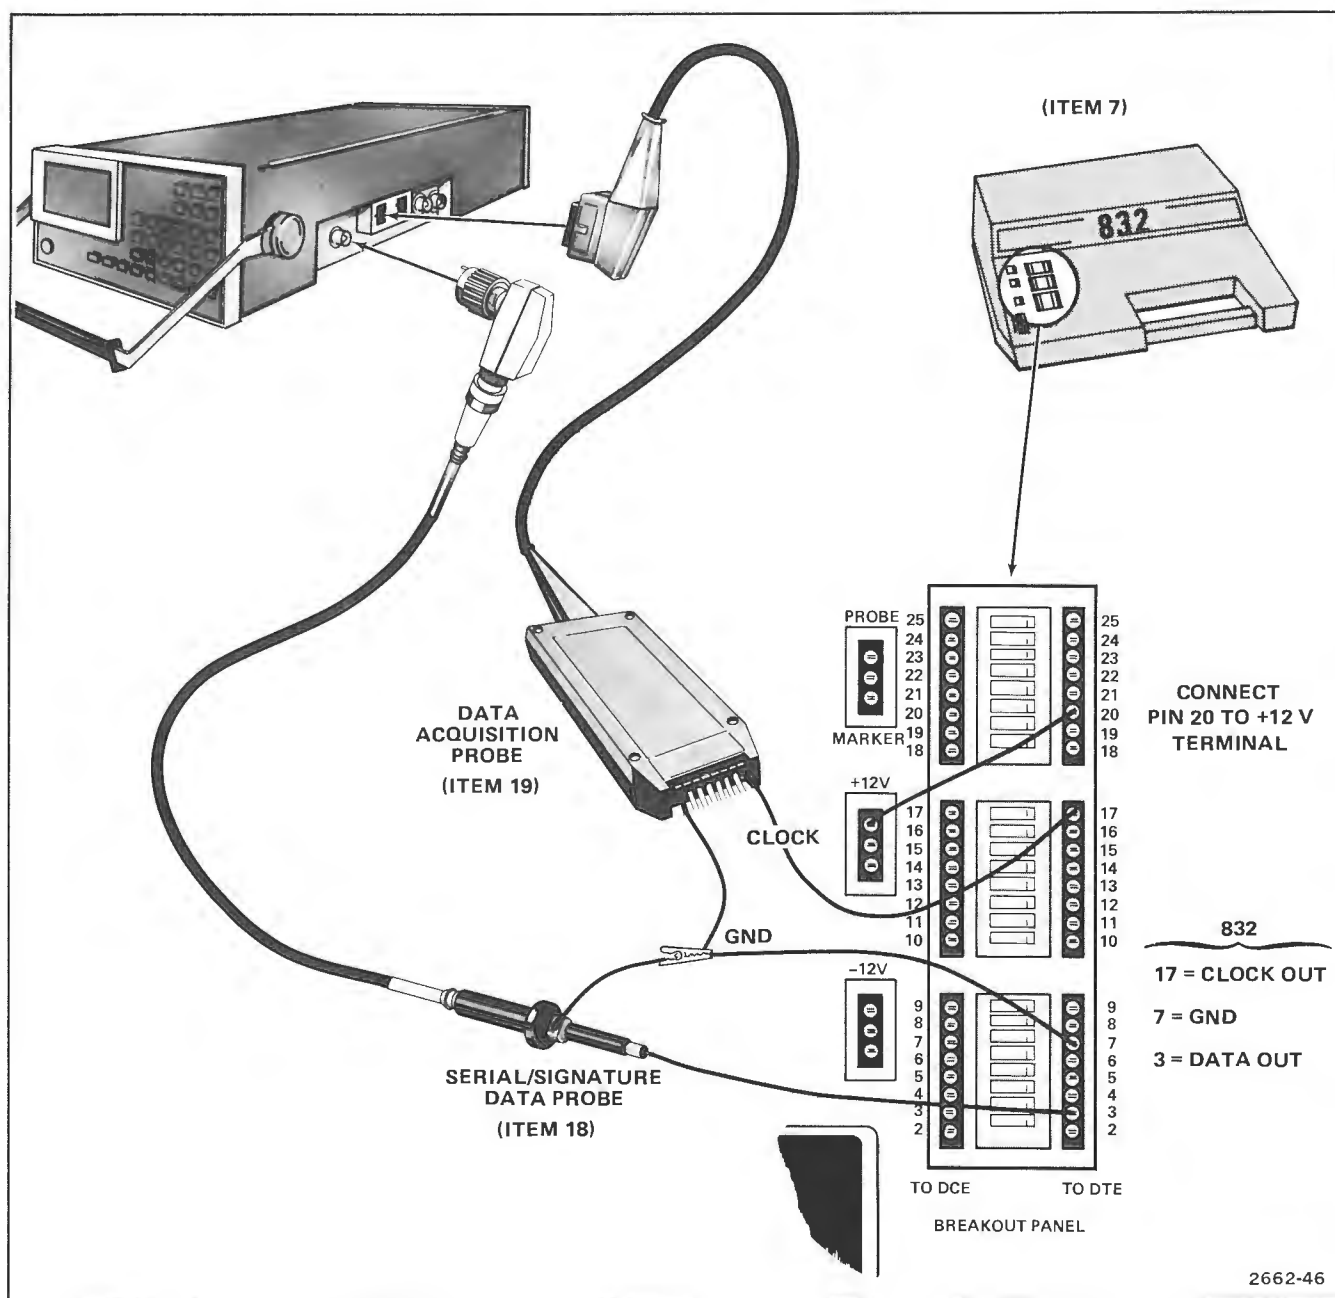

Figure 4-11. Test setup for serial acquisition check.
- f. Connect test setup as shown in Figure 4-11.